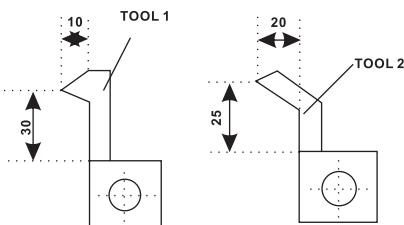

Figure 6-1
2. According to the size of TOOL1 and datum TOOL, determine the position of TOOL relative to zero of absolute coordinate and datum tool. As Figure 6-1. The relative size of TOOL 2 is as follows X axis  $25-30=-5$ , Z axis  $20-10=10$ .